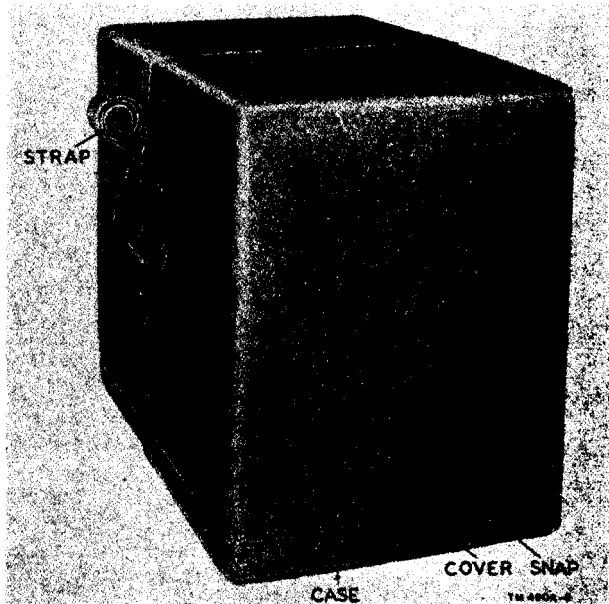

Figure 3. Case closed with cover and strap.
- (1) *Cover and carrying strap* (fig. 3). The weather protective cover for the case is fabricated of heavy, olive drab, cotton duck. The cover slips over the case and is secured with snap fasteners at the lower edge of both the case and the cover. Overlapping flaps on the sides of the cover permit the strap to be threaded through the metal handles of the case. The 1½-inch by 8 feet long, olive drab, cotton web strap, complete with a metal buckle, is furnished with the cover.
- (2) The carrying case (fig. 3) is then locked and covered with the heavy olive drab cotton duck cover, which is secured to the lower edge of the case by snap fasteners. A heavy duty, olive drab cotton web strap is fastened around the cover and case.